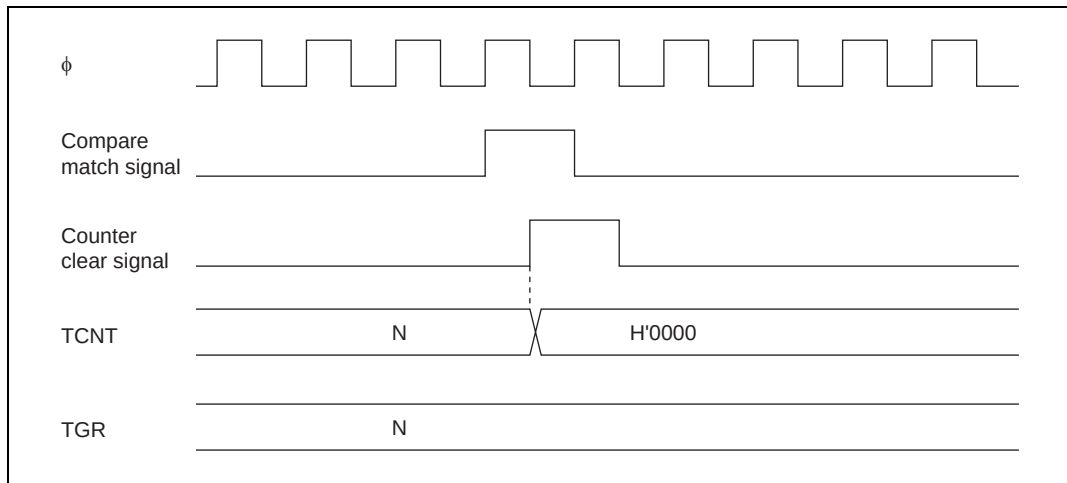
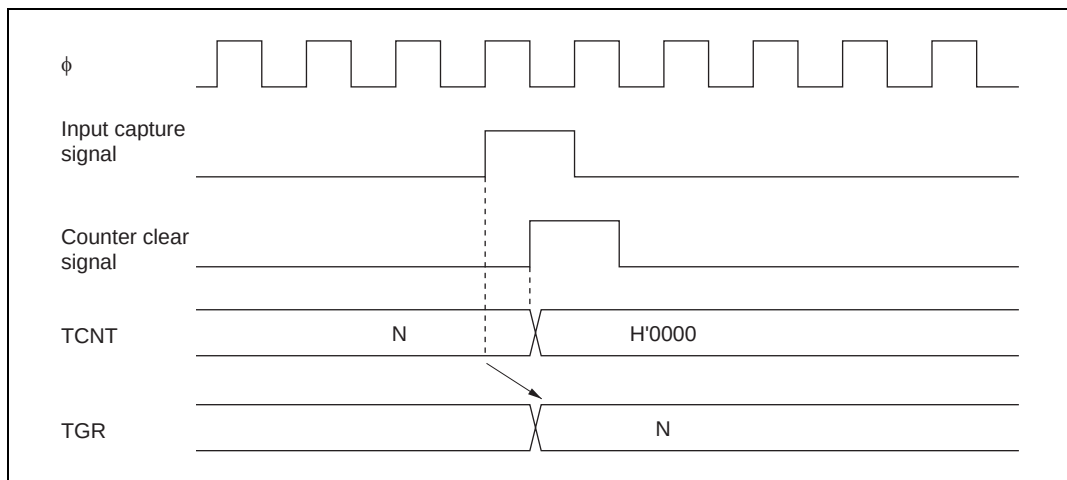

**Figure 9.38 Counter Clear Timing (Compare Match)**
**Figure 9.39 Counter Clear Timing (Input Capture)**
**Timing for Counter Clearing by Compare Match/Input Capture:** Figure 9.38 shows the timing when counter clearing by compare match occurrence is specified, and figure 9.39 shows the timing when counter clearing by input capture occurrence is specified.